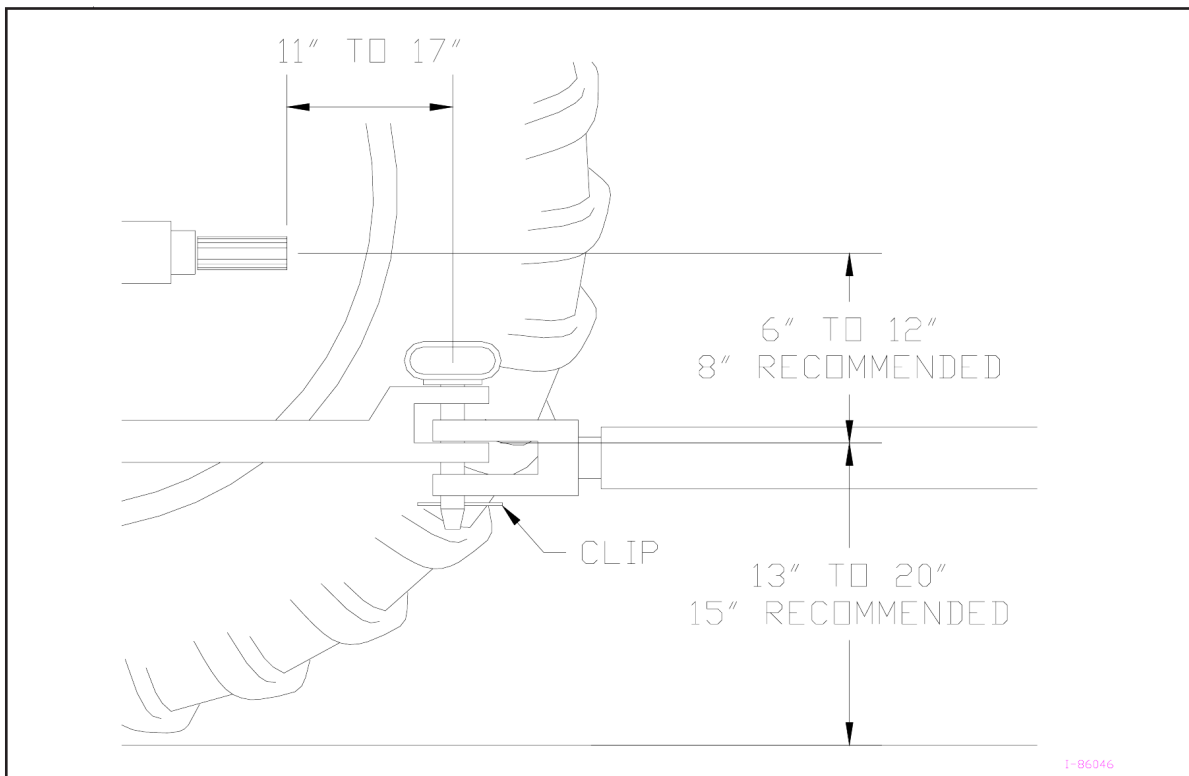

Figure 2A - Specifications for Connecting the Spreader/Tractor Hitch
The spreader hitch is designed to work with a standardized tractor hitch. To connect the spreader hitch to the tractor hitch, refer to Figure 2A and adhere to the following guidelines:
- Adjust the drawbar so that it is 13 to 20 inches above the ground as shown in Figure 2A.
- Extend or shorten the tractor hitch to obtain the horizontal distance from the end of the tractor power take-off (PTO) shaft to the center of the hitch pin hole (as shown in Figure 2A).
WARNING: Damage to the spreader or other vehicle, as well as injury to the operator, may occur if a properly-sized hitch pin is not installed as recommended. Note that the installation of the safety clip, as noted in Figure 2A, is also required for safe spreader operation.